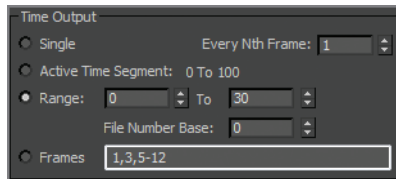

FIGURE 15.25 The Time Output section setup for a range from 0 to 30
1. In the Time Output section, click to select Range and change it to read 0 to 30, as shown in Figure 15.25.